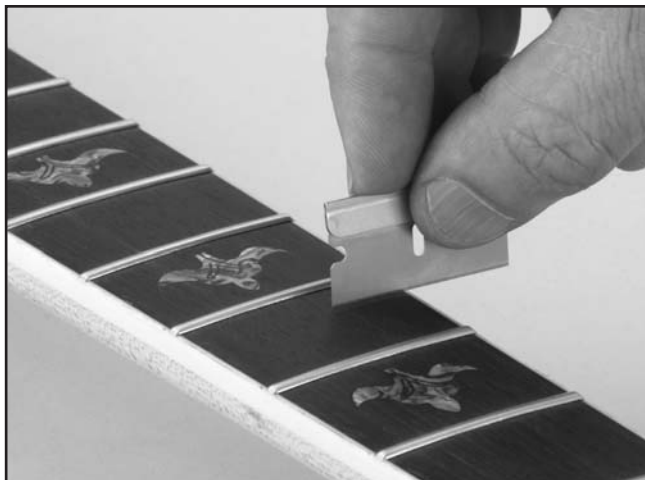

Figure 8. Scraping the fretboard.
- Remove the masking tape from the fretboard and carefully scrape any excess finish off the surface of the fretboard with a razor blade or chisel as shown in **Figure 8**.